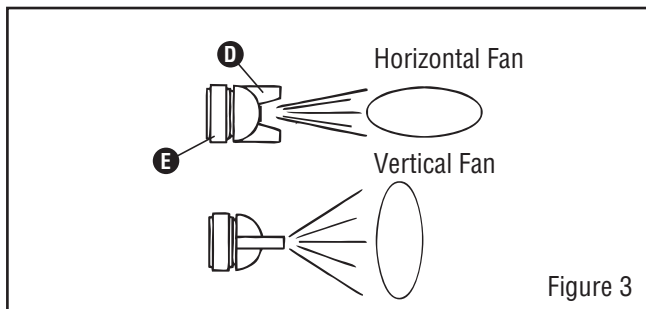

Figure 3
- Fill the paint cup (B) about 3/4 full and start the air compressor.
1. Adjust the direction of air cap (D) to be either horizontal or vertical as required by loosening air cap ring (E) 90 degrees with hand. Hand tighten the air cap ring (E) after adjustment. (See Figure 3)